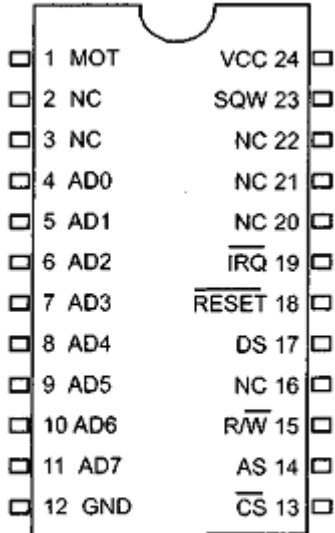

Figure 16-1. DS12887 RTC Chip
- ✓ Next we describe the pins of the DS 12887. See Figure 16-1.